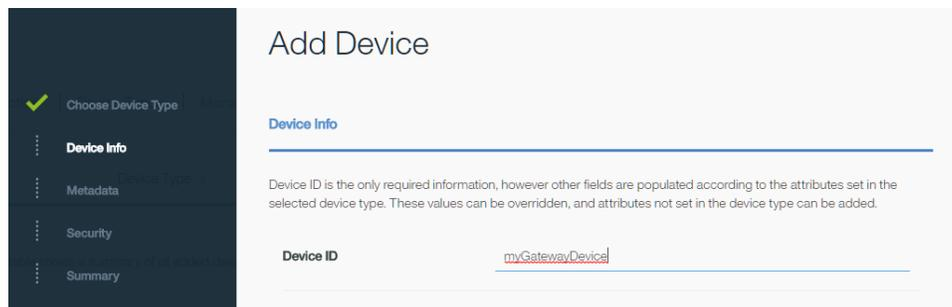

Figure 23. myGatewayDevice
- Enter a **Device ID** (see Figure 23).